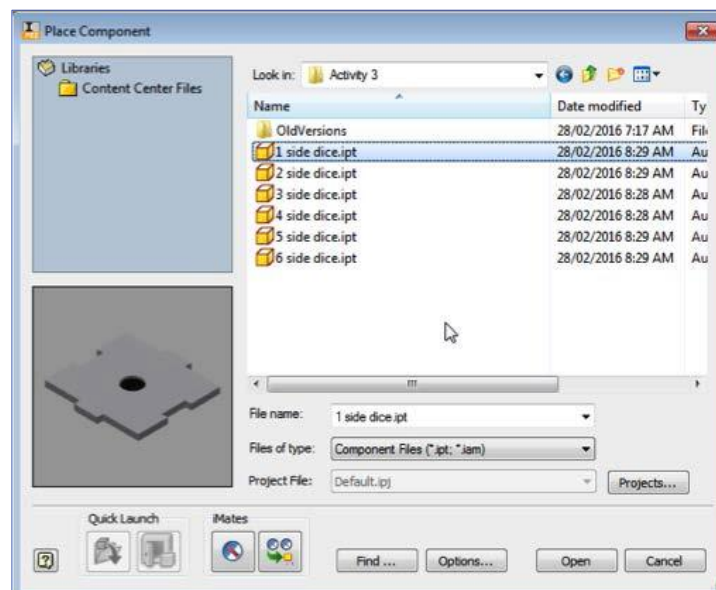

Figure 17
2. If you have done everything above correctly, you should have a directory containing the six files listed in Figure 17. When you select a file, the Preview window should show a part that corresponds to the file name you've selected (Figure 17).